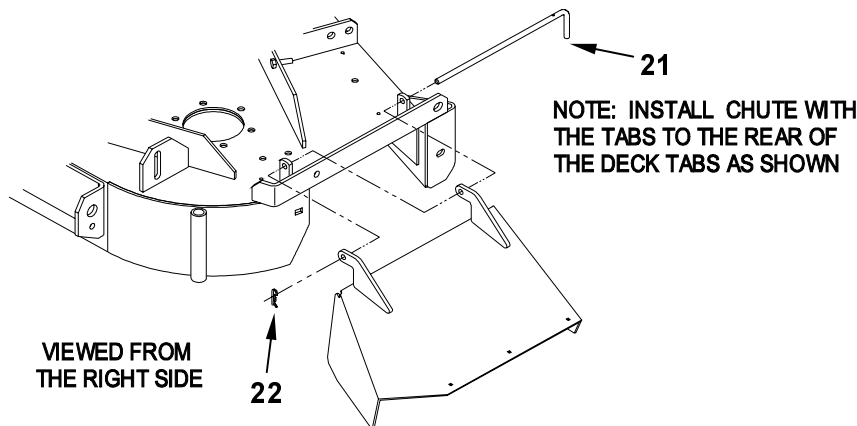

FIGURE 3
- 3.3.6 Install the discharge chute using the chute pivot pin and hairpin (See Figure 3).